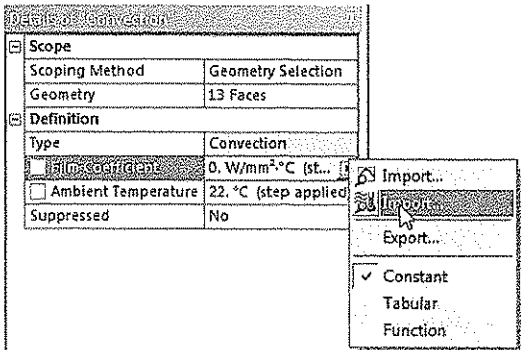

Figure 11-32 Choosing the Import option from the Film Coefficient flyout
12. In this flyout, choose the **Import** option, as shown in Figure 11-32; the **Import Convection Data** dialog box is displayed.